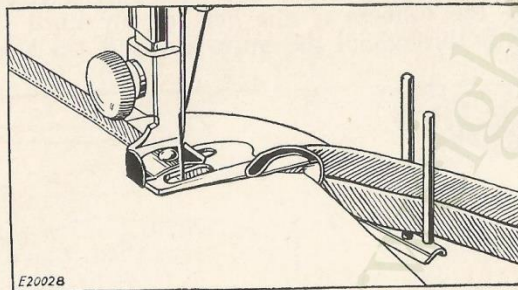

FIG. 248. APPLYING BIAS BINDING TO RAW EDGE OF GARMENT
- a—Attach the Binder to the sewing machine. Insert the raw edge of the garment in the Binder and finish the edge with cotton or silk bias binding, as shown in Fig. 248.